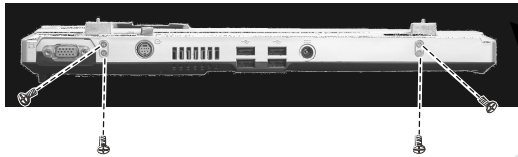

Figure 2-23 Remove the four screws
2. Remove the four screws. (Figure 2-23)